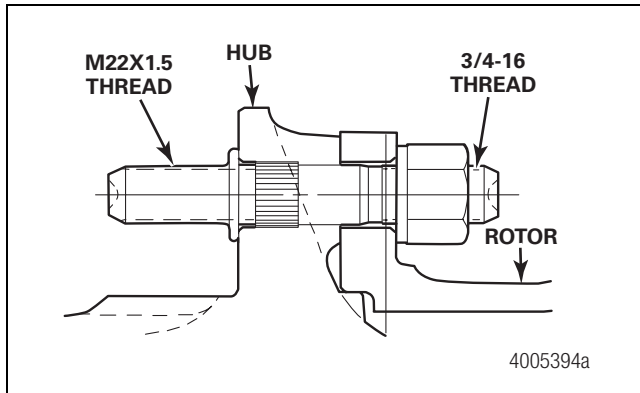

Figure 13.46
- Tighten the inner 3/4-16 nuts to 100 lb-ft (136 N•m) to seat the wheel studs. Figure 13.46. **🔧**